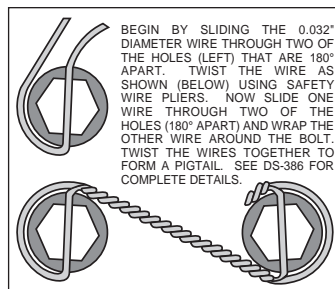
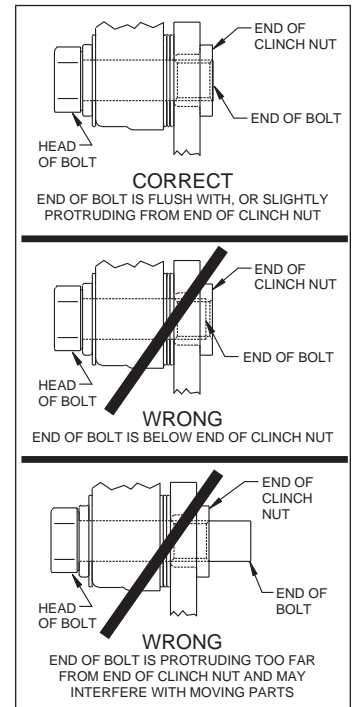

Figure 4. Safety Wire Diagram
Figure 5. Clinch Nut Engagement Diagram
**Assembly Instructions** (numbers in parenthesis refer to the parts list, on the preceding page and Figure 2): **CAUTION:** All mounting bolts must fully engage clinch nuts. Be sure to check that all bolts are either flush or protruding through flanged side of clinch nut after shimming, Figure 5.
- Install the grease seal (7) by pressing into the backside of the hub (5), flush with the end of the hub, Photo 3.
- Orient the rotor (9) and the rotor adapter (8) as shown in Figure 2 and Photo 4. Attach the rotor to the adapter using bolts (10). Using an alternating sequence, apply red *Loctite*® 271 to the threads, and torque to 25 ft-lbs. Safety wire bolts using standard 0.032 inch diameter stainless steel safety wire as shown in Figure 4. Refer to Wilwood's data sheet DS-386 (available at [www.wilwood.com/Pdf/DataSheets/ds386.pdf](http://www.wilwood.com/Pdf/DataSheets/ds386.pdf)) for complete safety wire installation instructions.
as shown in Figure 2. Initially place two .035" thick shims (19) on each bolt between the caliper and the bracket, Photo 8. Temporarily tighten the mounting bolts and view the rotor (9) through the top opening of the caliper. The rotor should be centered in the caliper, Photo 9. If not, adjust by adding or subtracting shims (19) between the bracket and the caliper. Always use the same amount of shims on each of the two mounting bolts. **NOTE:** The end of each bolt must be flush with or slightly protruding from the head of the clinch nut, as shown in Figure 5. If necessary place spare shims (19) between washer (18) and caliper mounting ear to achieve the proper clinch nut engagement. Once the caliper alignment and clinch nut engagement are correct, remove the bolts one at a time, apply red *Loctite*® 271 to bolt threads, and torque to 40 ft-lb. For an added measure of security, the bolts may be safety wired using standard 0.032 inch diameter stainless steel safety wire as shown in Figure 4. Refer to Wilwood's data sheet DS-386 (available at [www.wilwood.com/Pdf/DataSheets/ds386.pdf](http://www.wilwood.com/Pdf/DataSheets/ds386.pdf)) for complete safety wire installation instructions.